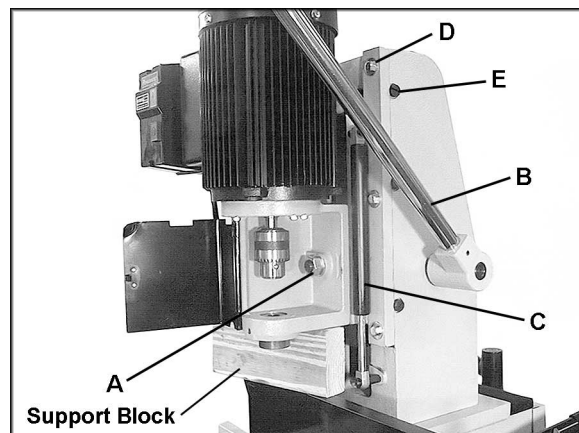

Figure 17
1. Place a block of wood for support between the head and fence (Figure 17). Lower the head until it rests upon the block.
2. Loosen only slightly the hex nut (A, Figure 17).
3. Pull down the handle (B, Figure 17) until the cylinder (C, Figure 17) bottoms out.
4. Tighten the hex nut (A, Figure 17).
1. Slightly loosen the three hex cap screws (D, Figure 17) which hold the gib.
2. Turn the gib screws (E, Figure 17) until any play is removed.
3. Re-tighten the hex cap screws (D, Figure 17) securely.